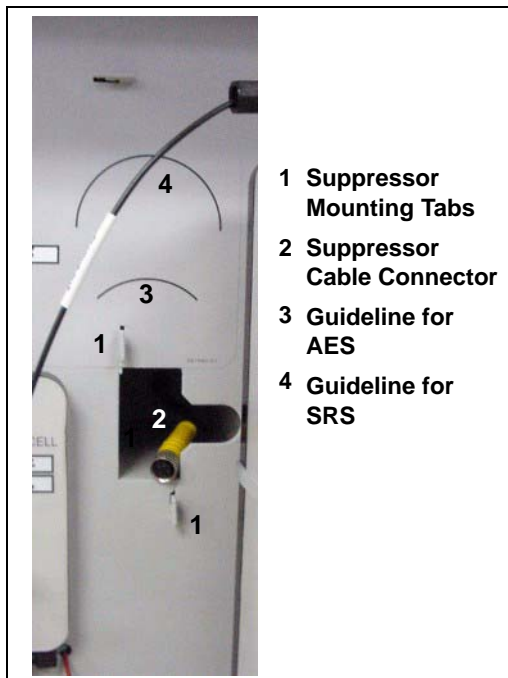

Figure 5-12. Suppressor Guidelines and Mounting Tabs on Component Panel
11. Align the top of the suppressor with the guide line printed on the component panel (see Figure 5-12) and align the slots on the rear of the suppressor with the tabs on the panel.